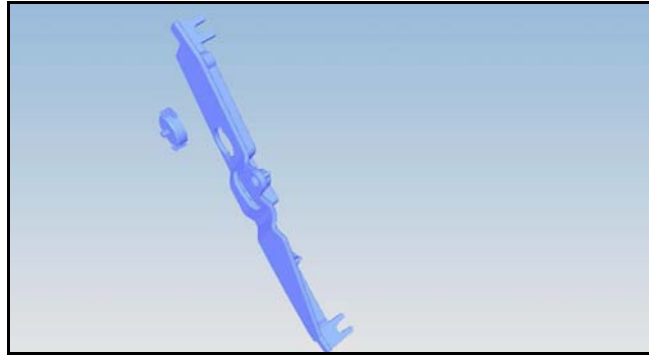

Figure 6
7. Remove the hinge bracket gear from the left hinge bracket (refer to Figure 6).